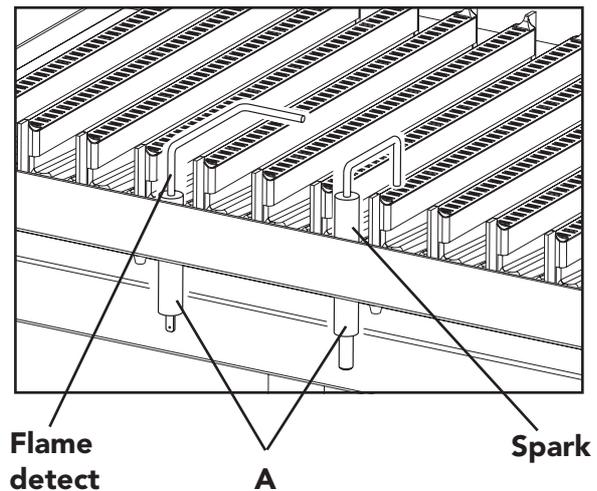

Fig. 35
**7.11 Spark or flame detect electrode (fig. 35)**